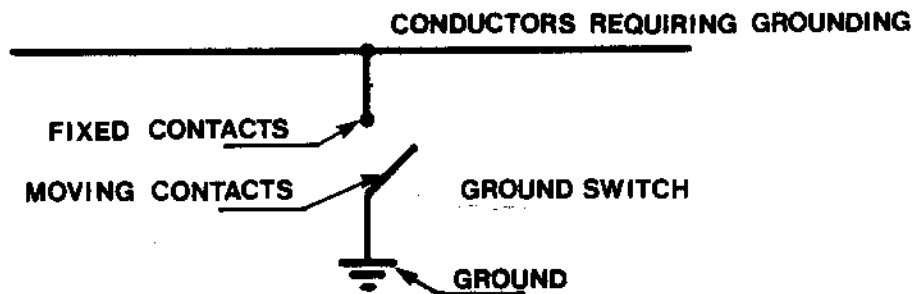

Figure 3: Ground Switch: Symbol.
4.1.1 Introduction. Grounding switches are provided to ensure high voltage conductors are at ground potential. Figure 3 shows the symbol for a three phase ground switch.